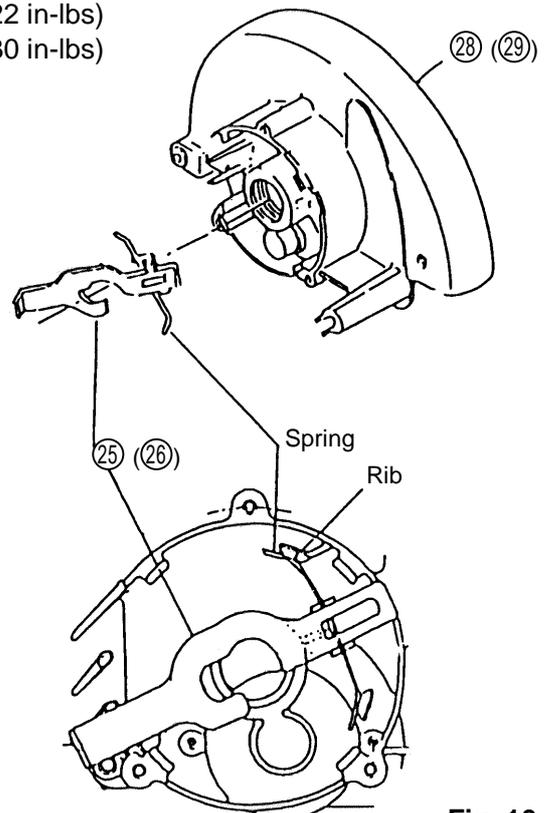

Fig. 10
(3) Reassemble the Lock Lever ②⑤ (②⑥) (See Fig. 10):
- A. Position the Lock Lever ②⑤ (②⑥) between the Fan and the 6001VVCMP2L Ball Bearing ②⑥ (②⑦) of the Armature ②④ (②⑤), and carefully assemble it together with the Armature ②④ (②⑤) into the Gear Cover Ass'y ②⑧ (②⑨).
- B. Ensure that both ends of the Spring on the Lock Lever ②⑤ (②⑥) are properly supported inside the ribs of the Gear Cover Ass'y ②⑧ (②⑨).
- C. When assembly of the Lock Lever ②⑤ (②⑥) is completed (when the Gear Cover Ass'y ②⑧ (②⑨) has been assembled to the Housing Ass'y ①⑨ (②⑩) and fastening with the M5 x 45 Machine